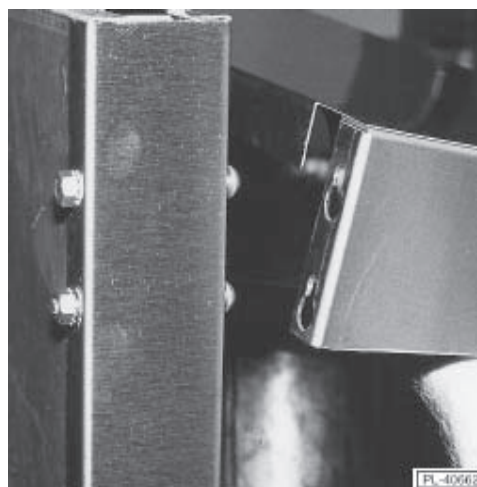

Fig. 14
8. Lift the shelf up and slide the shelf into position over the screw heads (Fig. 14).